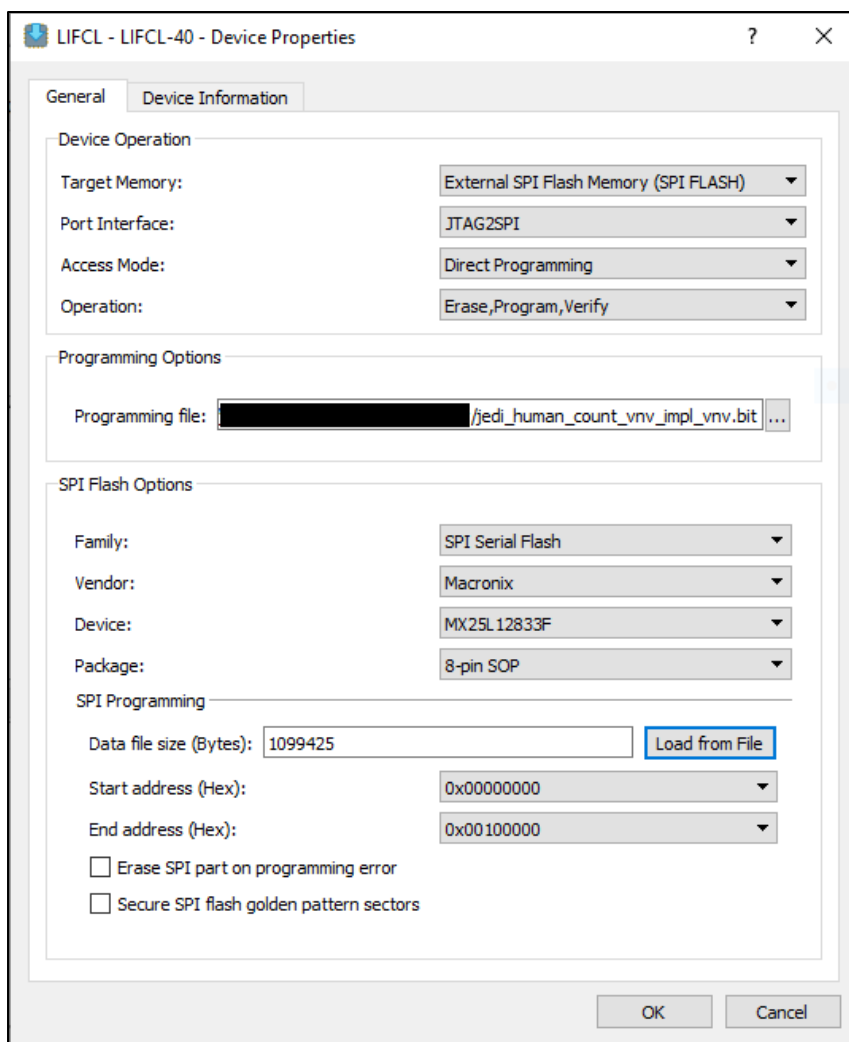

Figure 3.5. Radiant Programmer – Selecting Device Properties Options
- c. For SPI Flash Options, make the selections as shown in Figure 3.5.